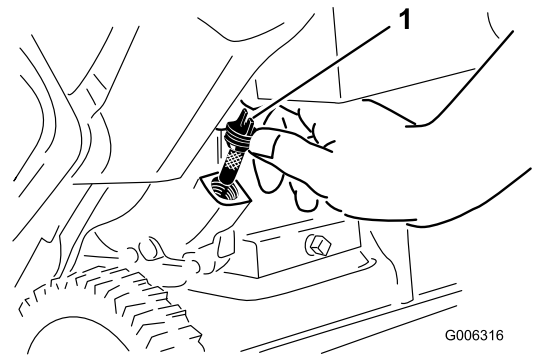

Figure 12
- Clean around the oil fill cap (Figure 12).